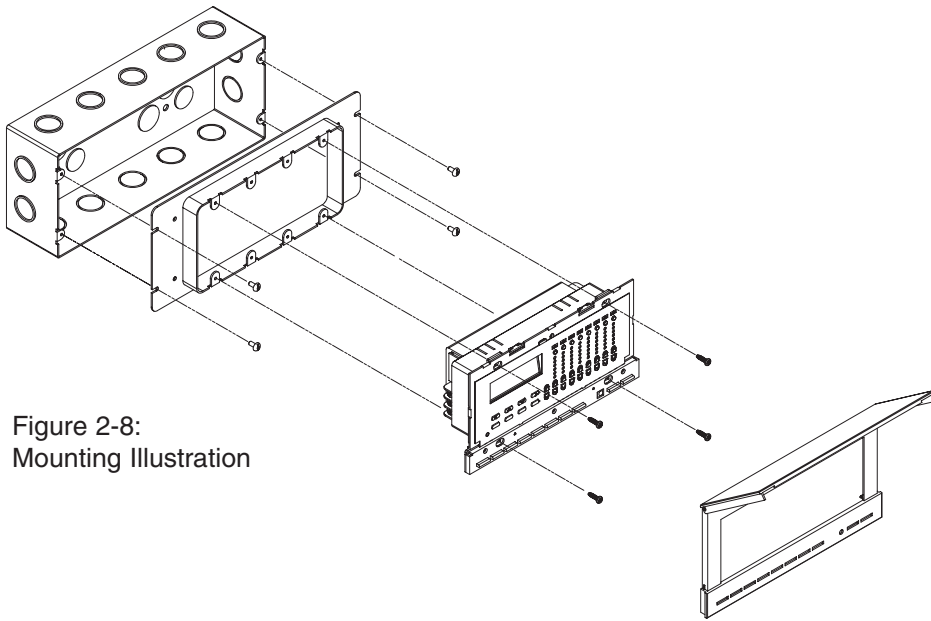

Figure 2-8:
5. Carefully position all wires to provide room in switch box for Multizone Controller. Mount Multizone Controller to raised cover using the screws provided. See Figure 2-8.